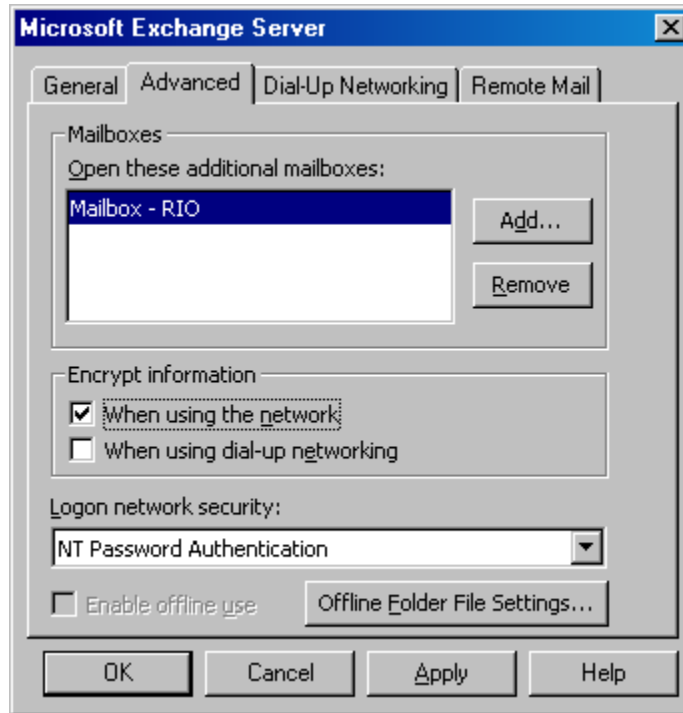

Figure 5-6. Advanced properties popup window
4. Click on the **Advanced** tab, and the window changes, as shown in Figure 5-6.